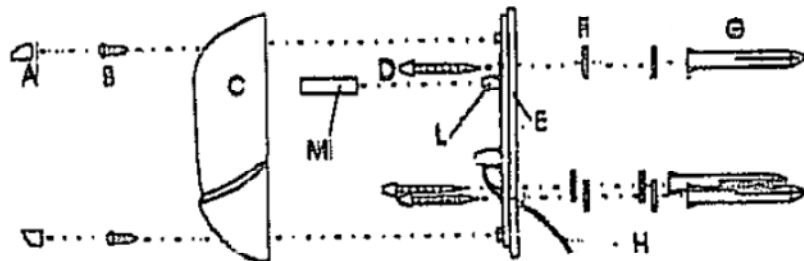
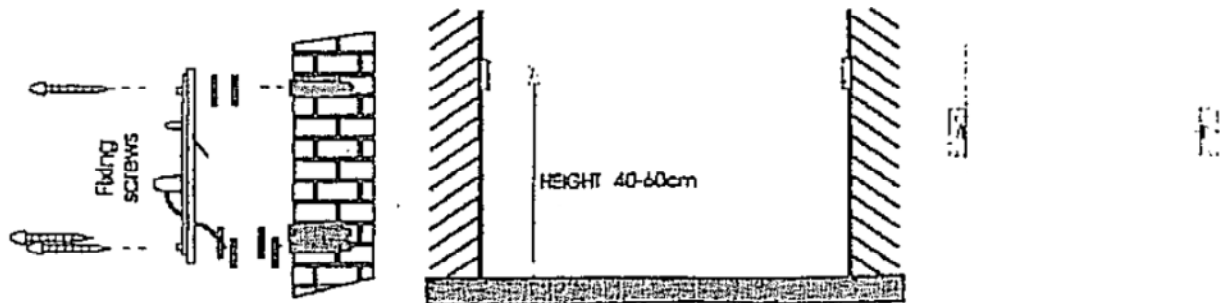

Figure 1 PHOTODEVICE PARTICULARS
fig.5 WALL FIXING
1) Take down the cover of the photodevices (see figure 1)
4) As shown in the figure 1, fix the photodevice structure E on the wall, using the fixing screws D, the centering distance part F and the reinforcements G. For a correct installation, the transmitter and the receiver have to be installed in frontal position and aligned on the same axle (figure 5); it is necessary to operate on the fixing screws to obtain the best alignment of the transmitter and the receiver.
7) If the distance between the transmitter and the receiver is lower than 4-5 metres, the presence of some reflecting metallic parts next to the transmitter could create interferences to the system. In this case it is necessary to select the "minimum range" and/or insert the "canalizer" tube, of 5mm diameter, on the photodevice F of the receiver (see figure 1). It is necessary to consider that the use of the "canalizer" tube causes a range decreasing of about 30%.
9) Assemble the cover C, using the fixing screws B (see figure 1).